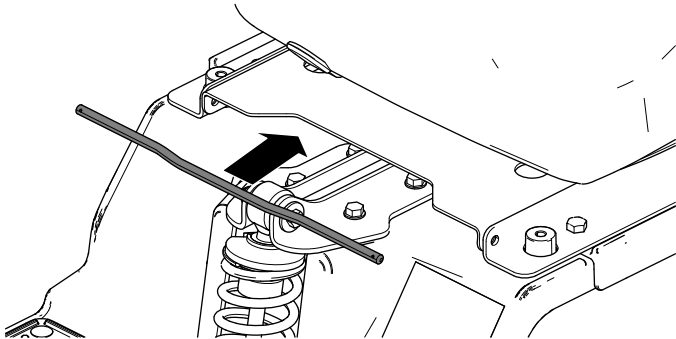

Figure 6
3. Install the seat-pivot rod by inserting the rod from the center and outward through the pivot bracket hole and seat pan hole (Figure 6).